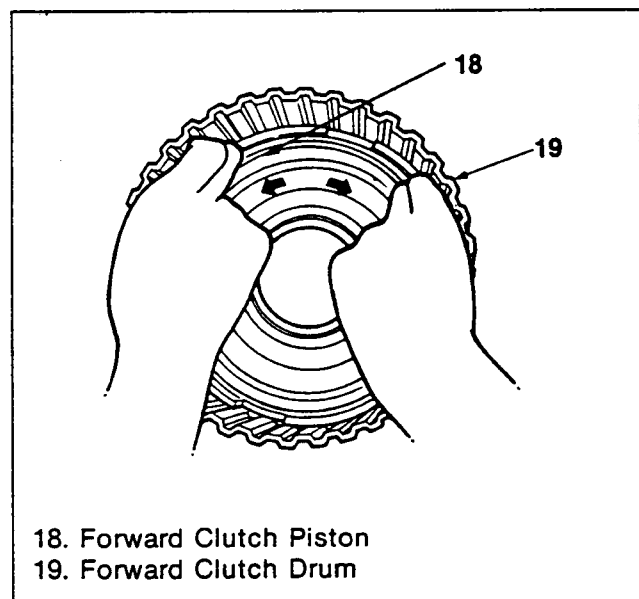

Figure 155. Forward Clutch Piston Installation (1)
Forward Clutch Piston (Figures 155 and 156)
2. When installing the piston, turn it with your hand, and after it is in the right position, make sure that it turns by hand (figure 155).